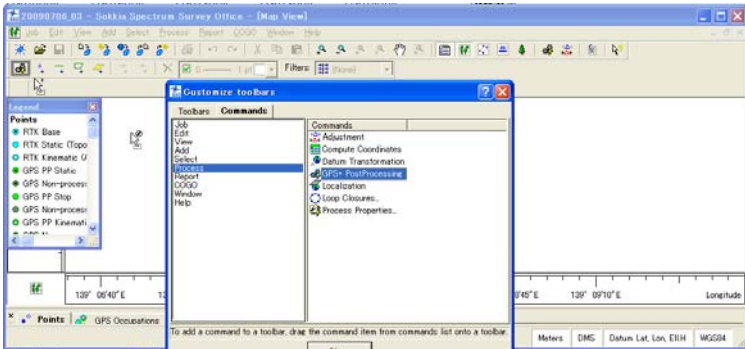

Figure 1-28. Adding Commands to Toolbar
4. To add a command, select the applicable menu, then click and drag the desired toolbar command to the empty toolbar (or to a location on any toolbar) on the main screen and release the mouse button (Figure 1-28).